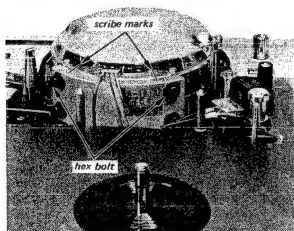

Fig. 4-1. Removal of upper drum
3. Put a reference mark on the upper drum using a scriber and straight edge as shown in Fig. 4-1.
4. Remove the two upper 5×20 hex-head bolts as shown in Fig. 4-1. and washers with a 5 mm Allen wrench. Hold the upper drum with one hand so that it does not fall as you withdraw the two screws.